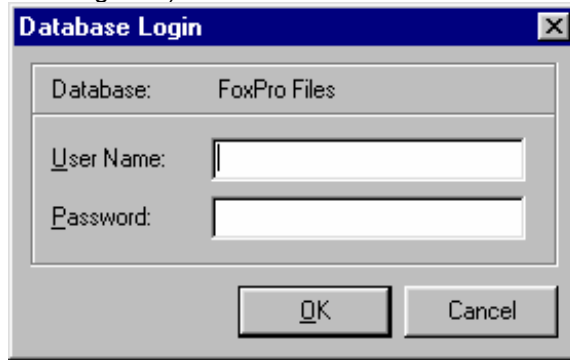

Fig.16.3
- When the Database Login shows on the screen, you can enter your database file's user name and password or just click OK. (refer to the Fig.16.3)